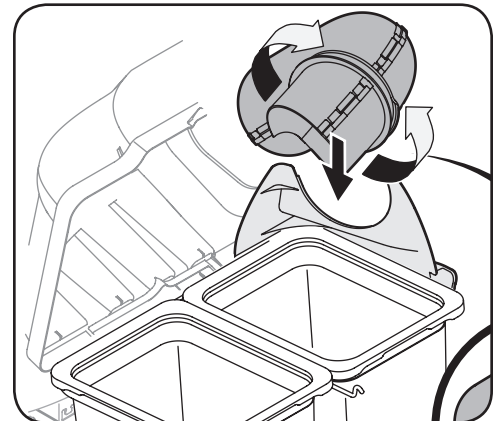

Figure 4-19
4. Continue to work the discharge chute down over the chute elbow until the groove on the discharge chute aligns with the upper chute support, as shown in the inset of Figure 4-19.